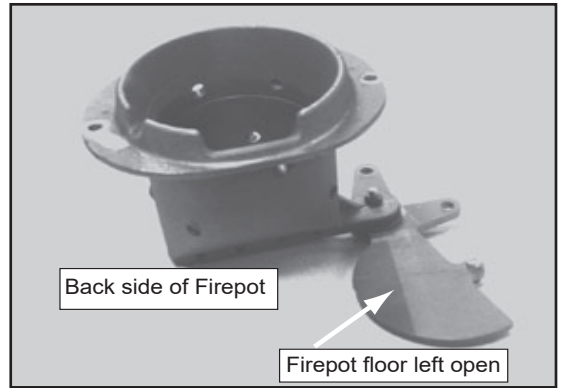

Figure 18.2
- c. The fire pot floor plate must be fully closed when finished. **Figure 18.2.**